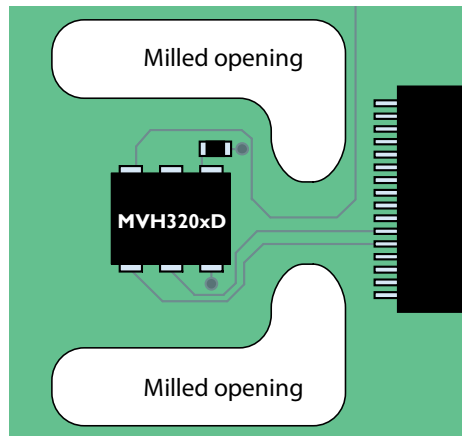

Fig. 18: Thermal isolation of sensor using milled PCB openings.
**vicinity of the sensor** since these will act as thermal conductors. To further reduce the heat transfer from other components on the board, openings can be milled into the PCB as shown in Fig. 18.